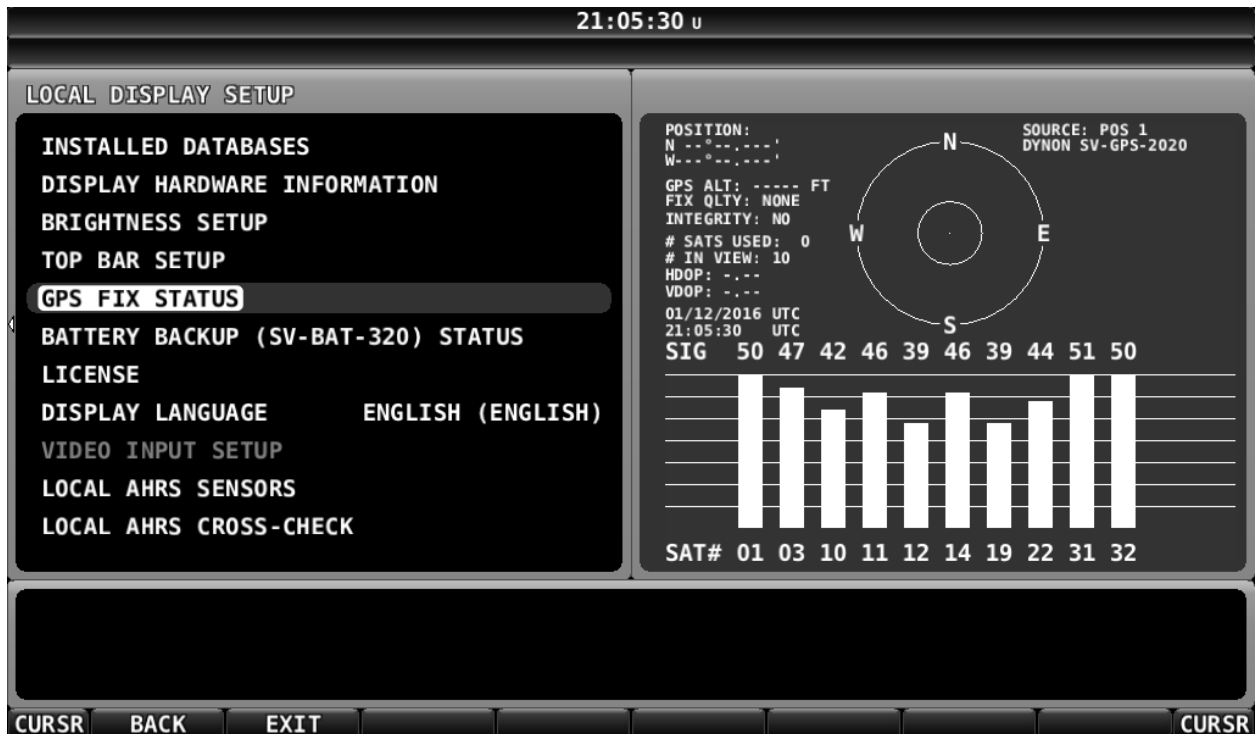

Figure 123 – No GPS Fix
**If, after waiting several minutes, any of the Minimum Values shown in Table 74 – Verification of SV-GPS-250/2020 Adequate Satellite Reception *are not shown* (such as illustrated in Figure 123 above) it may be necessary to install the SV-GPS-250/2020 in a different location on the aircraft.**